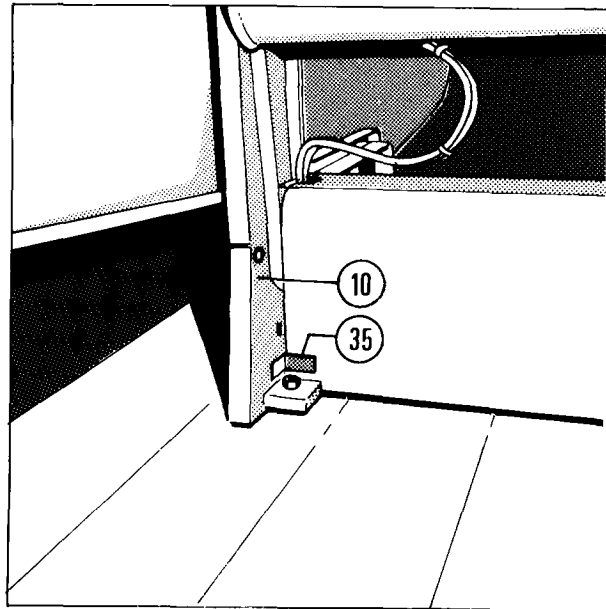

Fig. 19
- Install table base cover and end switches with housings (Fig. 19/- item 10).
- Check with table in true vertical position the switch actuators (Fig.19/item 35). They must actuate the switches 05 and 05a reliably and simultaneously.